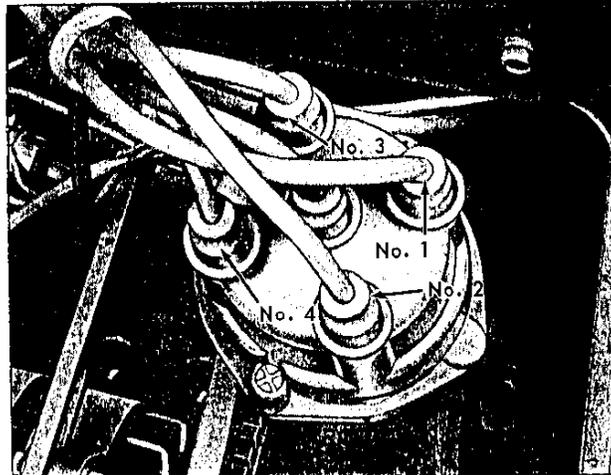

Figure 2a. Distributor Cap and Cylinder Tower Numbers.
**Step 5: Check the timing with a neon timing light (Figure 2a & b).** The engine should be timed to the 23-degree advance position at not less than 2000 RPM.